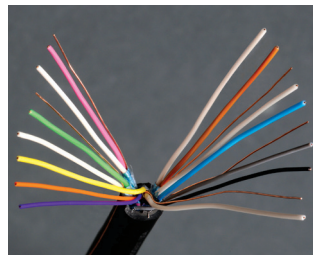

Figure 11.
Step 5 Separate wires into two even bundles of two twisted pairs and 3 control wires, and two twisted pairs and 4 control wires (Fig. 11).